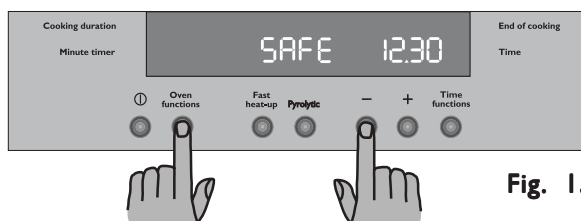

Fig. 15
- 1) Turn off the oven by pressing button ①.
- 2) Press Oven functions and "-" buttons at the same time and keep them pressed for about 3 seconds. An acoustic signal will be emitted and the indication 'SAFE' will appear on the display (Fig. 15).